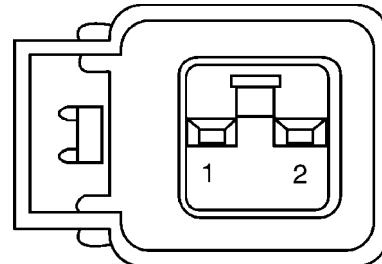

Fig. 1 Horn Connector 80b6f054
- (1) Disconnect wire connector at horn.
- (2) Using a voltmeter, connect one lead to ground terminal and the other lead to the positive wire terminal (Fig. 1).
- (3) Depress the horn switch, battery voltage should be present.
- (4) If no voltage, refer to **HORNS WILL NOT SOUND**. If voltage is OK, go to step Step 5.
- (5) Using ohmmeter, test ground wire for continuity to ground.
- (6) If no ground repair as necessary.
- (7) If wires test OK and horn does not sound, replace horn.
(3) Using a suitable jumper wire, jump across the fuse F62 cavity and the X2 cavity of the horn relay in the Junction Block.
(4) Remove airbag trim cover from steering wheel. Refer to **ELECTRICAL, RESTRAINTS**.
(5) Test continuity across horn switch connectors with horn switch depressed.
(6) Install horn relay into intelligent power module.
(7) Disengage wire connectors from horns.
(8) Using a voltmeter, with the horn switch depressed test voltage across horn connector terminals of the wire harness (Fig. 1).